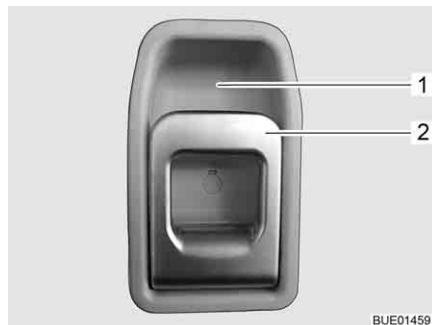

Fig. 44 Door lock of conversion door, inside
- Pull on the handle (Fig. 44,2). The door lock is unlatched.
- Press the upper part of the handle (Fig. 44,2) in the direction of the recessed handle (Fig. 44,1).